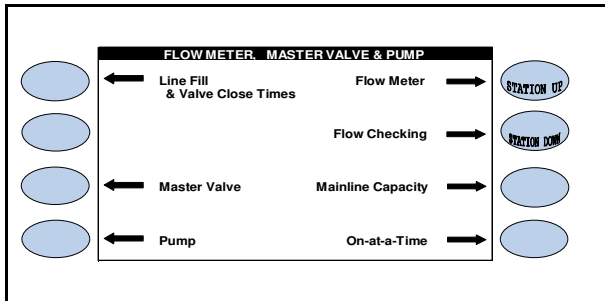

Figure 21
The FLOW METER, MASTER VALVE & PUMP screen (Figure 21).
1. Press the **FLOW CHECKING** Menu key (Figure 21).